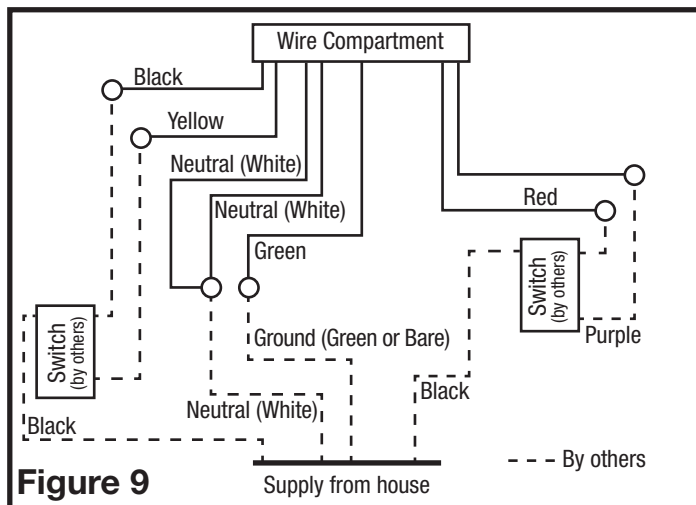

Figure 9
- 3b. From where you have chosen to access the fan's junction box, connect the white wire from the house to the white wires from the fan. Connect the wire from the automatic position on the wall switch to the black wire from the fan, connect the wire from the manual On position on the switch to the yellow wire from the fan. Connect the ground wire from the house to the green wire from the fan housing (**Figure 9**). Use approved methods for all connections.
- 3c. **Wiring the Lights:** Using a properly grounded standard wall switch, connect the black wire from the supply to one side of the switch. Connect the Red wire (light) from the fan housing to one of the terminals on the switch. Connect the Purple wire (night light) from the fan housing to a separate terminal on the switch (**Figure 9**). Use approved methods for all connections.